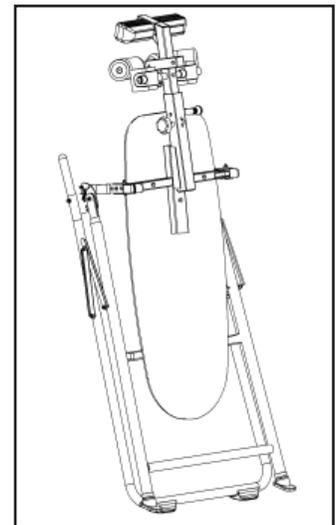

Figure 21
- The legs of the A-frame base may then be folded together for compact storage. (See Figure 21).